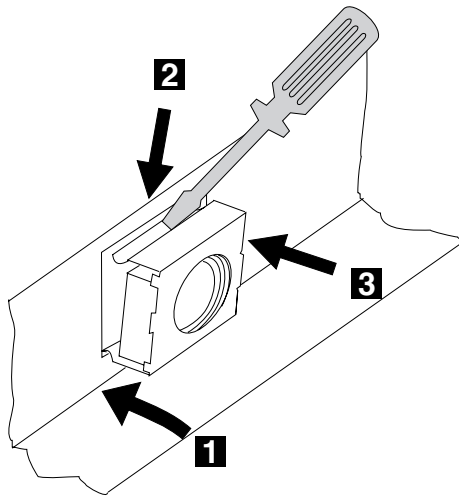

Figure 1-11. Installing the Captive Nuts
2. Refer to Figure 1-11 to **install** the two captive nuts (PN 58G5766).